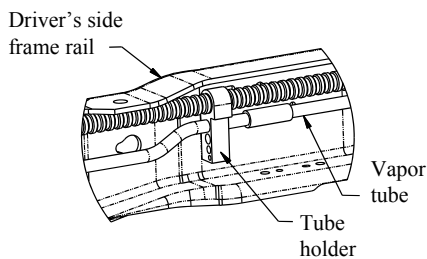
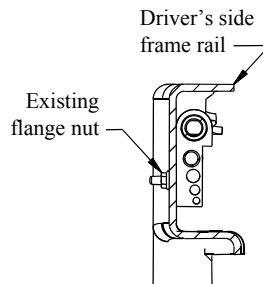

Figure 2a
Figure 2b
2. **On Gas Engine Vehicles Only.** The vapor tube running along the inside of the driver's side frame rail must be relocated prior to installing the driver's side bracket (see Figure 2a). Remove the flange nut from the outside of the frame and keep for later use (see Figure 2b). Rotate the tubes up and out of the way. Install the L-bracket with 1/4" hardware, as shown in Figure 2c. Tighten the L-bracket to the frame, but leave the tube holder loose to aid bracket installation. The tube holder will be tightened onto the L-bracket in Step 18.